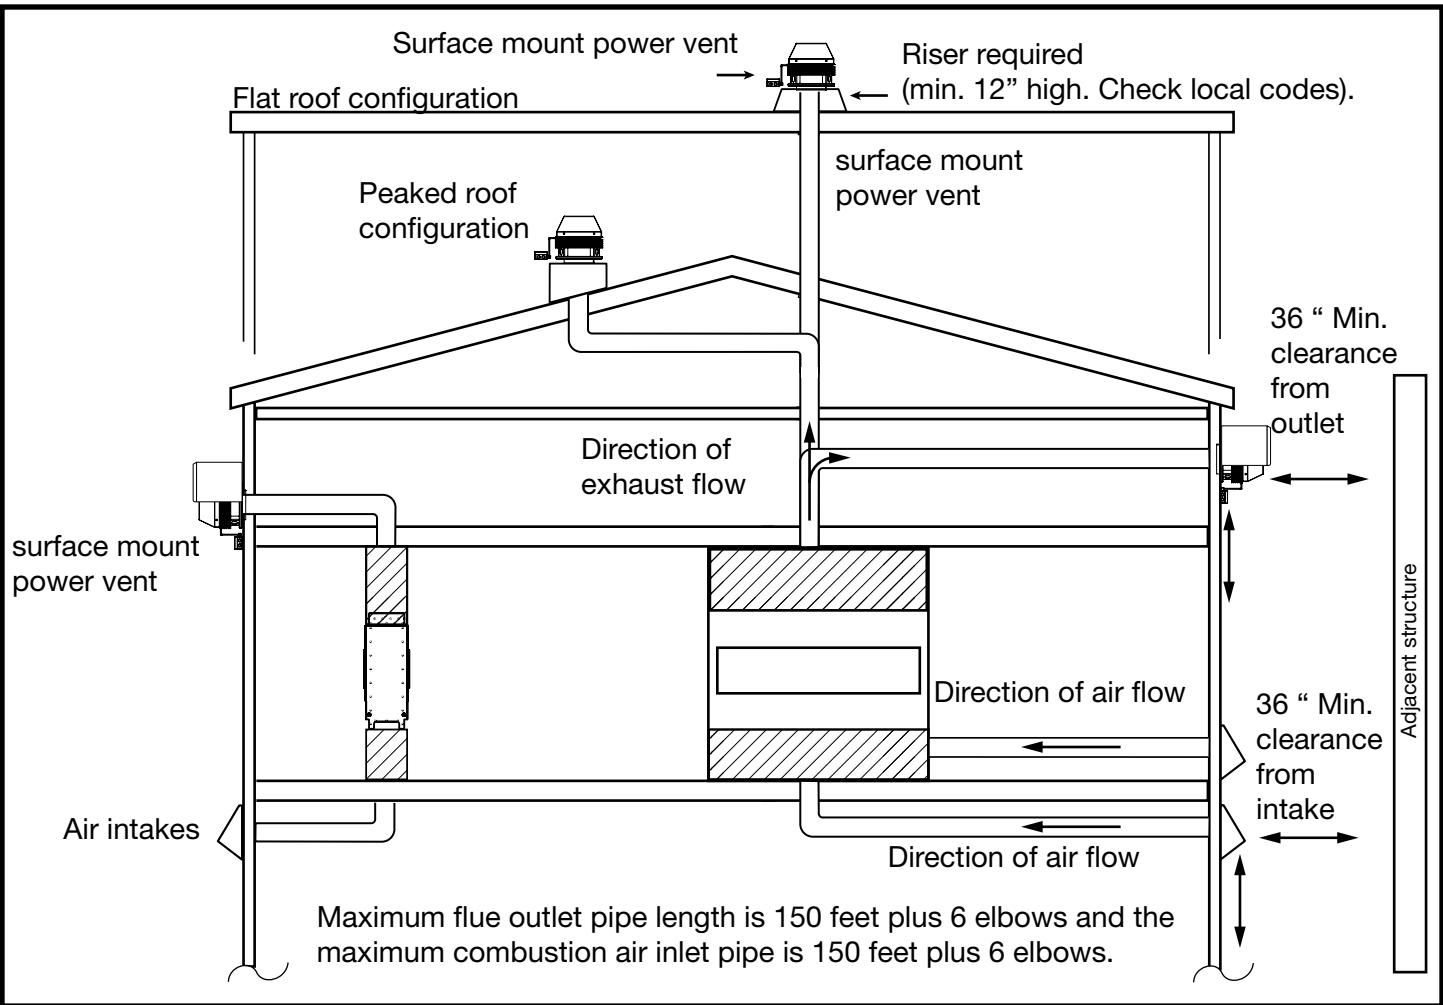

Figure 10: 5 Ft venting configurations.
**Some installations - particularly in new renovations or with pre-existing constraints / obstacles may require the construction of a plenum in order to accommodate multiple air intakes when the air intakes are unable to be routed through the floor normally as shown in Figure 10. This may be because the floor may be made of concrete.**